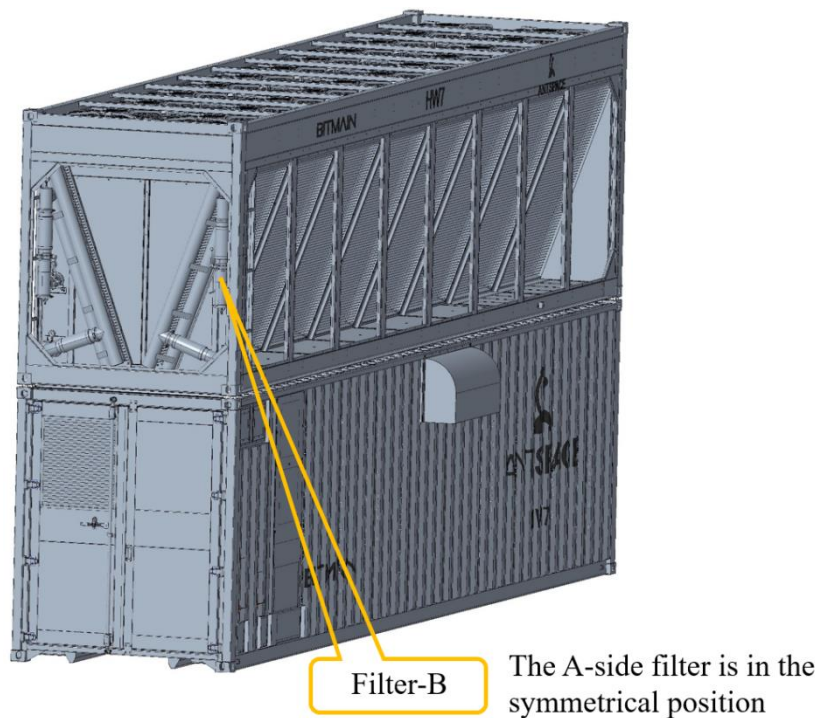

Figure 9.1 Location of pipeline maintenance butterfly valve and pipeline filter
- b) Find and close the maintenance butterfly valve in the system as shown in Figure 9.1, then open the drain ball valve below the pipeline filter assembly to partially drain the pipeline;